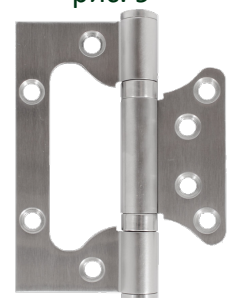

рис. 10
- ## 2) Overhead hinges "butterfly" (Fig. 10)